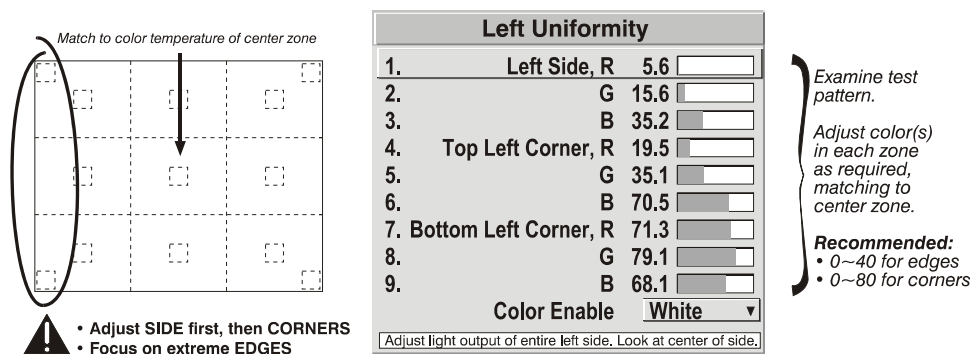

Figure 3.17. Match Zones to Center Color Temperature
- 2b) Return to the *Brightness Uniformity* menu. Beginning with the screen that exhibits the most obvious color shift(s), for each edge that exhibits a noticeably different color temperature from the center, select the corresponding *Uniformity* adjustment menu—*Left, Right, Top* or *Bottom*. For example, if any part of the left side is too blue, too red or too green, go to the *Left Uniformity* menu and adjust the colors (i.e., change their light output) until all portions of the left side closely match the center color temperature. Adjust an edge first (focusing on its center), and then adjust its corners. See Figure 3.17.